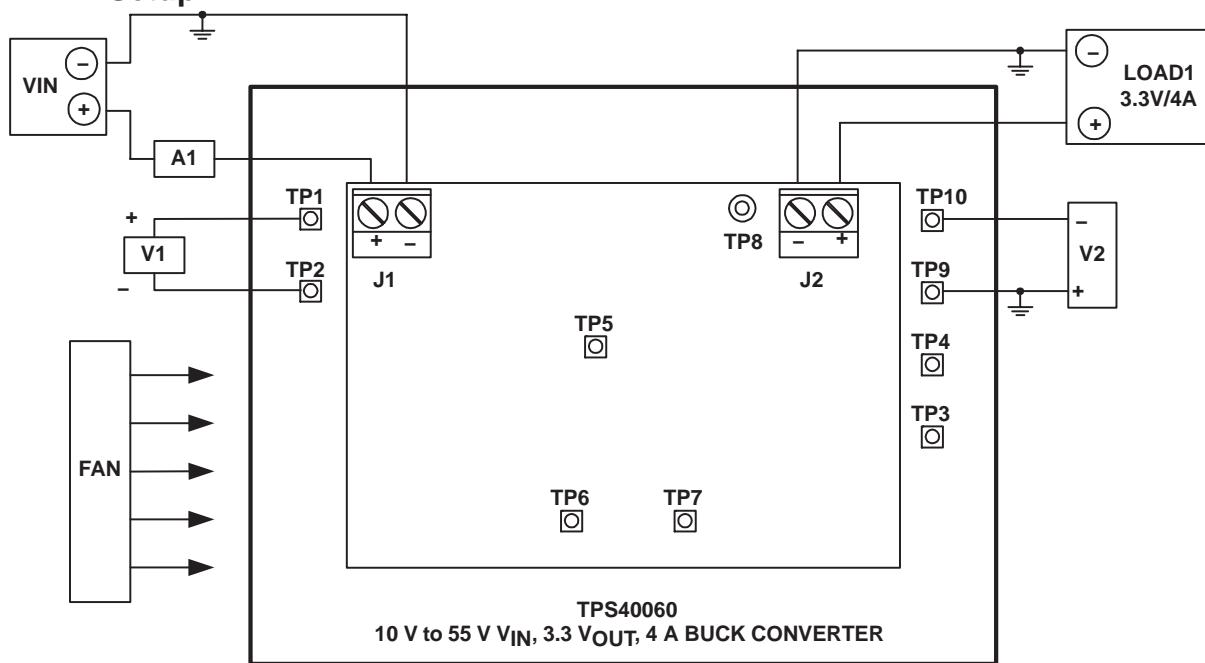

Figure 2. EVM Test Set-Up
Shown in Figure 2 is the basic test set up recommended to evaluate the TPS40060EVM. Please note that although the return for J1 is the same as the J2 return, the V_{IN} and LOAD1 connections should remain separate as shown below.
The input voltage source shall be a variable DC source capable of supplying between 0 Vdc and 55 Vdc at no less than 2 Adc, and connected to J1 as shown in Figure 2. For fault protection to the EVM, good common practice is to limit the source current to no more than 2 Adc for a 10 V to 55 V input. A DC ammeter, A1 should also be inserted between VIN and J1 as shown in Figure 2 for input current measurements. A DC voltmeter, V1 should be connected to TP1 and TP2 for V_{IN} measurements.
A network analyzer can be connected directly to TP3 and TP4 shown in Figure 2. The TPS40060EVM provides a 50Ω resistor (R9) between the output and the voltage feedback to allow easy non-invasive measurement of the control to output loop response.
2. Prior to connecting the DC input source, V_{IN} , it is advisable to limit the source current from V_{IN} to 2-A maximum. Connect the ammeter A1 (0 A to 2 A range) between V_{IN} and J1 as shown in Figure 2. Make sure V_{IN} is initially set to 0 V.
3. Connect LOAD1 to J2 as shown in Figure 2. Set LOAD1 to constant current mode to sink 0 Adc before V_{IN} is applied.
4. Connect the voltmeter, V2 to TP9 and TP10 as shown in Figure 2.